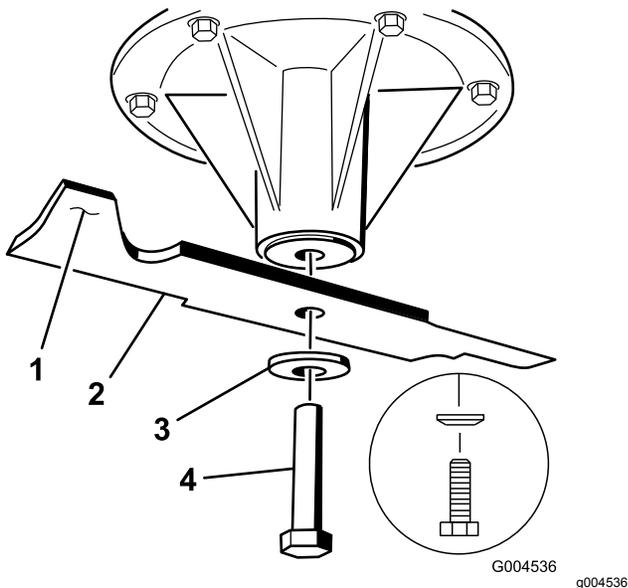

Figure 89
2. Remove the blade bolt, the curved washer, and the blade from the spindle shaft (Figure 89).